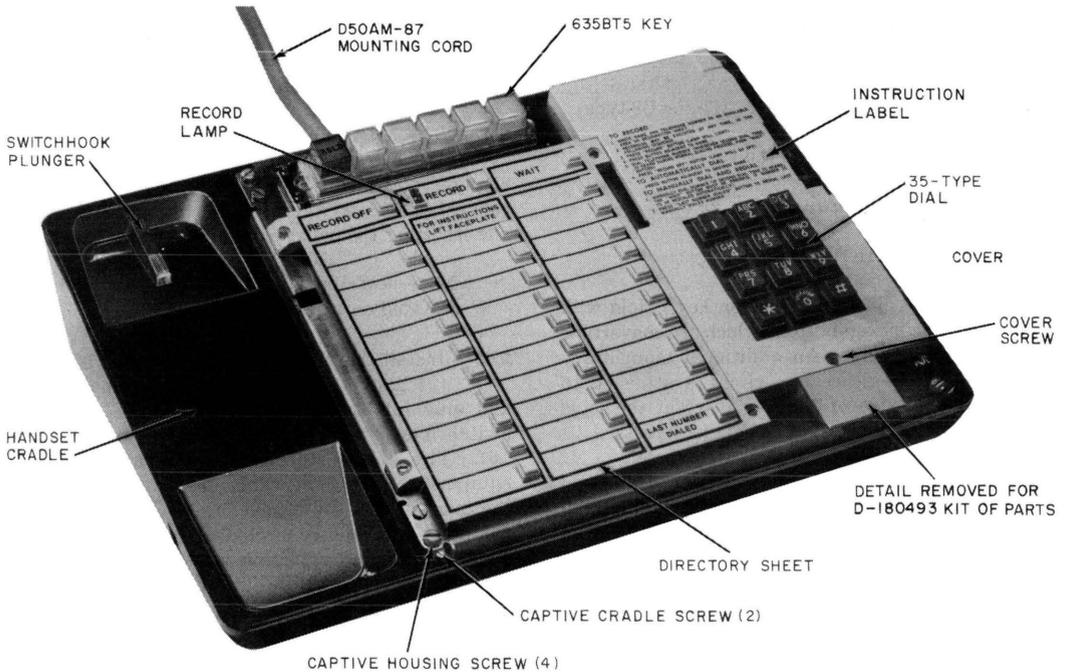

Fig. 2—2872A1M or 2872A2M Telephone Set—Faceplate and Handset Removed
2.06 Operating Features (Fig. 2):
- Line key (635BT5), 6-button key. Hold with five line pickup buttons which are convertible to nonlocking. An additional momentary contact (logic reset switch) is attached to the hold side of the key to reset the logic circuit anytime a key button is depressed.
3.05 The directory sheets (Fig. 2) fit over the buttons of the memory and are held in place by the faceplate. Additional sheets are available in the directory sheet set, 840393672.
- (5) Make connections per Table C, E, G, or H.
- (6) Break off the detail at the bottom of the cover (Fig. 2) and trim edge as required.
- (2) Loosen the captive cover screw at the bottom of the white cover around the dial (Fig. 2).
- (3) Remove the cover.
- (4) To replace the cover, the three tabs of the cover (one at the top center and one at each side just above the dial) must be aligned with holes in the chassis before the screw is refastened. Failure to do this will result in improper seating of the faceplate.
- (1) Remove the faceplate (3.17).
- (2) Loosen the captive cover screw at the bottom of the white cover around the 35AG3A dial (Fig. 2).
- (4) Remove the two screws that hold the dial in place.
- (5) Gently raise the dial and disconnect 12 position plug from terminal board.
- (6) Rotate dial over onto the memory.
- (7) To reassemble; reverse procedure.
- (8) To replace the cover, the three tabs of the cover (one at the top center and one at each side just above the dial) must be aligned with holes in the chassis before the screw is refastened.